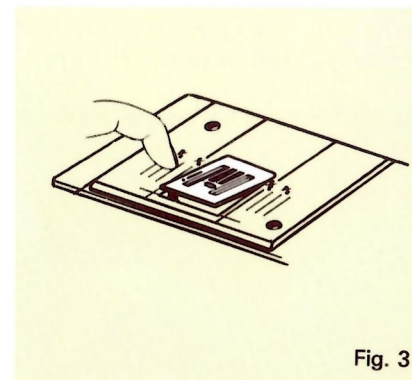

Fig. 3
5. Replace the needle plate insert positioning as shown in Fig 3.